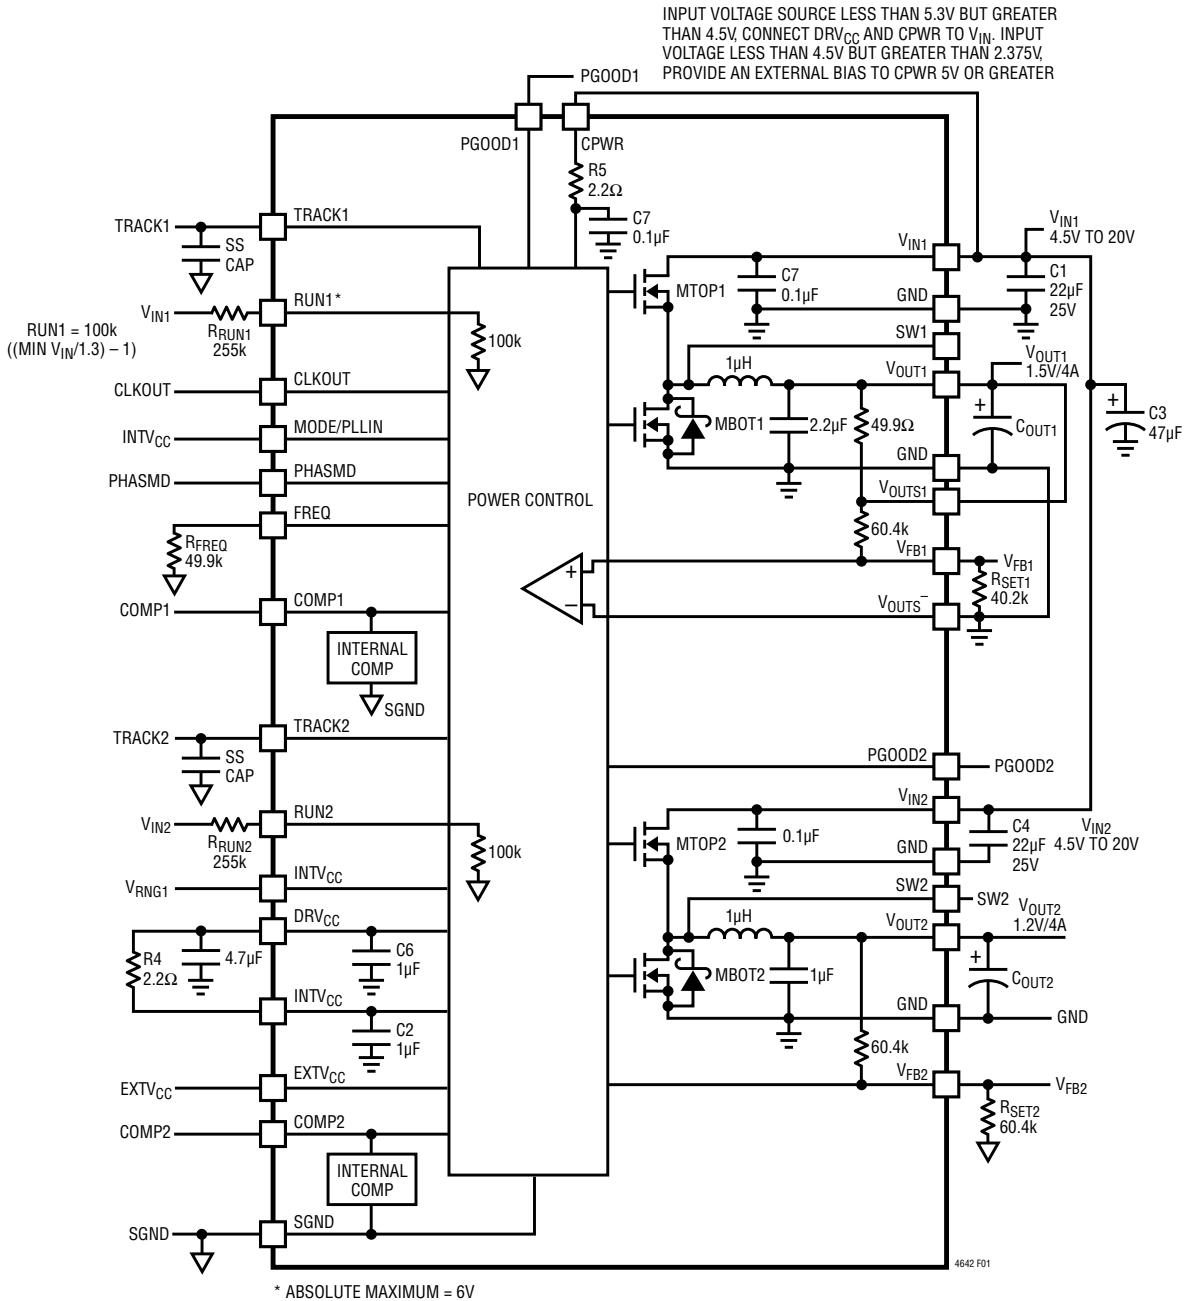

Figure 1. Simplified LTM4642 Block Diagram
**DECOUPLING REQUIREMENTS** TA = 25°C. Use Figure 1 configuration.
The resistor divider needs to be low enough resistance to swamp out the pull-up current sources to prevent unintended activation of the device. The RUN pin has a maximum rated voltage of 6V. See Figure 1 Block Diagram for set turn on equation.